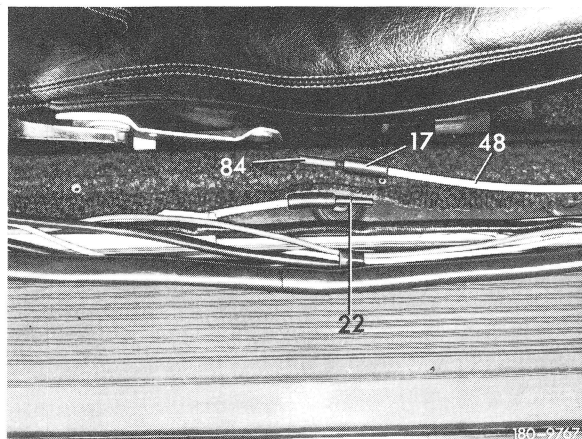

Fig. 3
Pull blue vacuum line (48) with connection (17) from distributor (22) and close with a blind plug (84) (Fig. 3).